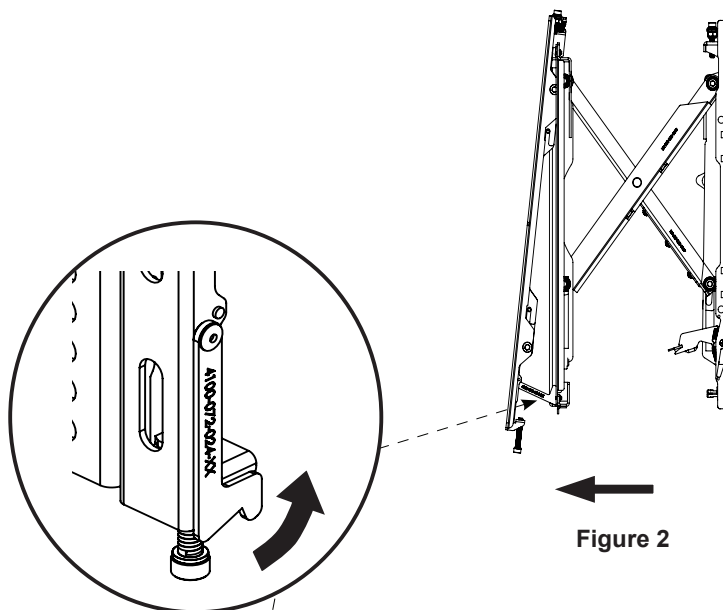

Figure 2
- 1) Slowly pull the front of the PFW 6880 to extend the scissor arms (Figure 2).
- 3) Tilt up the bottom of the flat-panel, then set their kickstands against the bottom tubing of the mount (Figures 2 & 3).